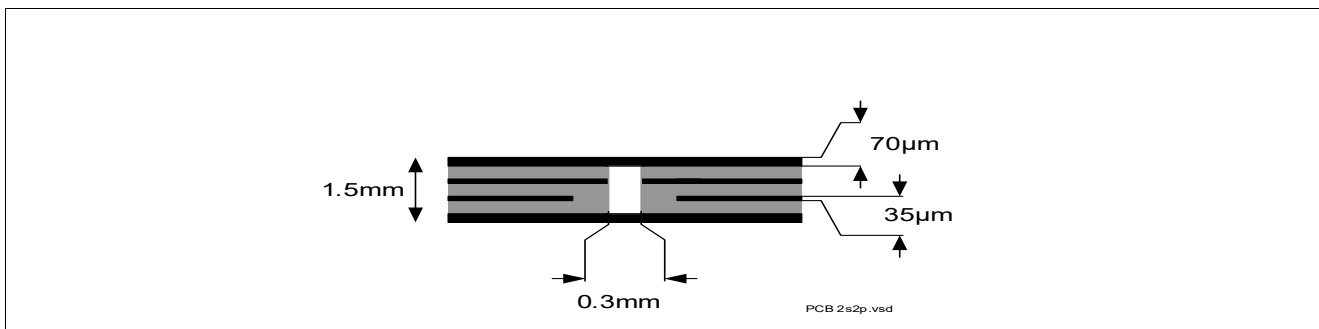

Figure 4 2s2p PCB Cross Section
2) Specified R_{thJA} value is according to JEDEC JESD51-2,-5,-7 at natural convection on FR4 2s2p board with 1 W power dissipation equally dissipated for both channel at $T_A=105^\circ\text{C}$; The product (chip + package) was simulated on a 76.4 x 114.3 x 1.5 mm board with 2 inner copper layers (2 x 70 μm Cu, 2 x 35 μm Cu). Where applicable, a thermal via array under the exposed pad contacts the first inner copper layer. Please refer to Figure 4.